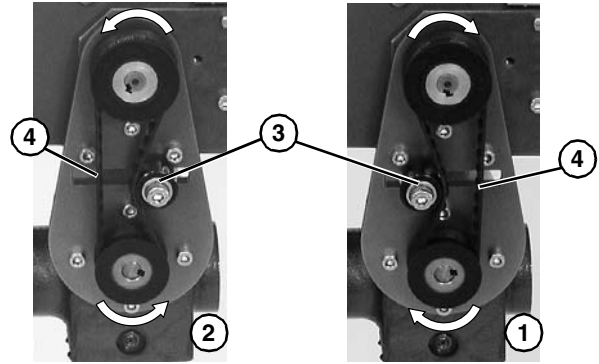

Figure 31
- Depending on direction of conveyor belt travel (1 or 2 of **Figure 31**), position belt tensioner (**Figure 31, item 3**) as shown. Tension belt to obtain 0.125" (3 mm) deflection for 1.0 lb (456 grams) of force at belt mid-point (**Figure 31, item 4**). Tighten tensioner screw to 103 in-lb (12 Nm).